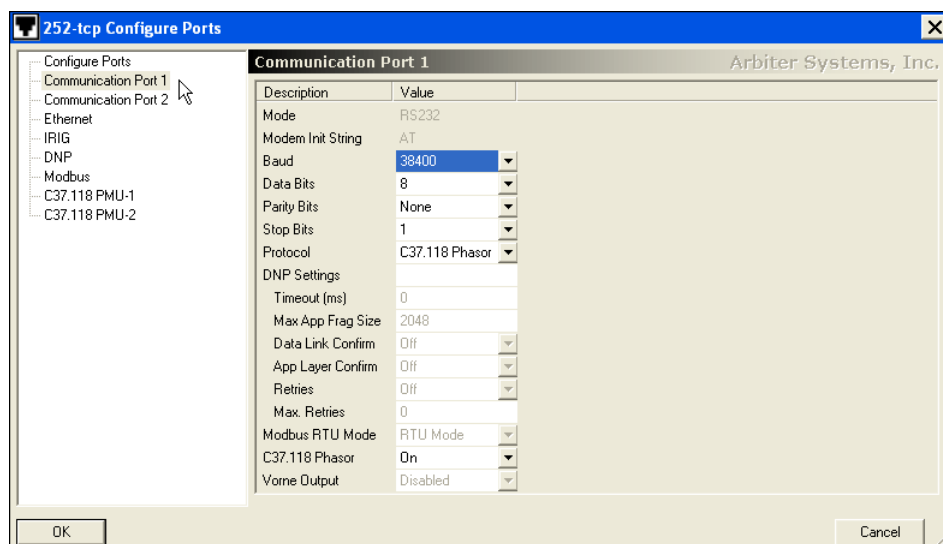

Figure 7.1: Configuring COM1 Settings
2. Select Connection > Configure > Communication Ports (Shift + Ctrl + C) or click the Configure Ports button. Select Communication Port 1 or 2 on the left panel and you should see a list of port setting Descriptions and Values. See Figure 7.1.